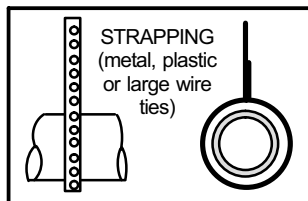

FIGURE 18
- 8 - If intake and exhaust piping must be run up a side wall to position above snow accumulation or other obstructions, piping must be supported every 3 ft. (.9m) as shown in figure 18. Refer to figure 28 for proper piping method. In addition, the wall termination kit must be extended for use in this application. See figure 30. When exhaust and intake piping must be run up an outside wall, the exhaust piping must be terminated with pipe sized per table 8. The intake piping may be equipped with a 90° elbow turndown. Using